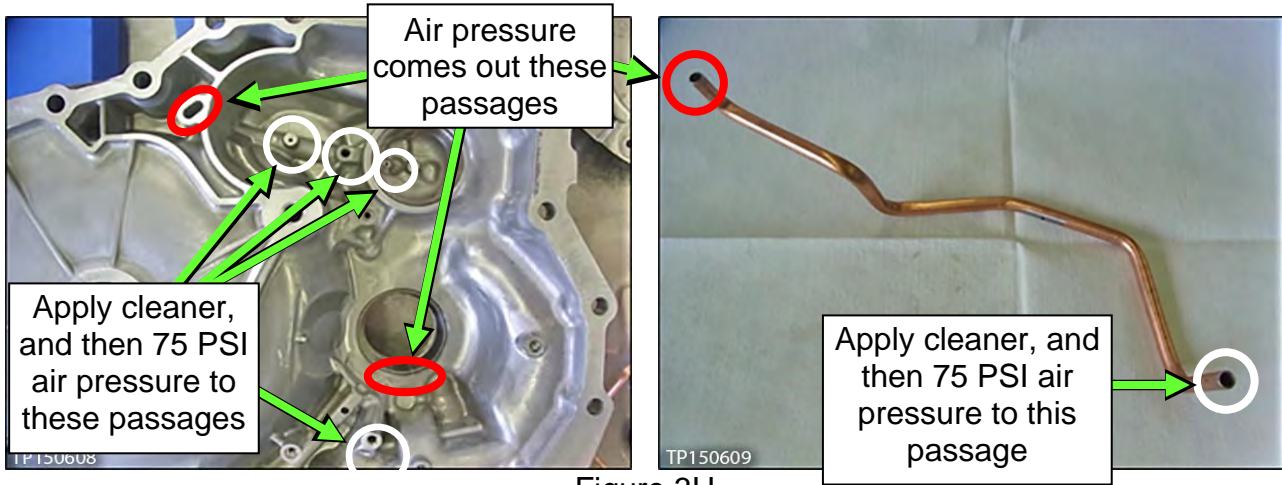

Figure 3H
- Clean the oil passages of the converter housing, lubrication tube and dummy cover with brake spray (or equivalent) where shown in Figures 3H and 4H below.